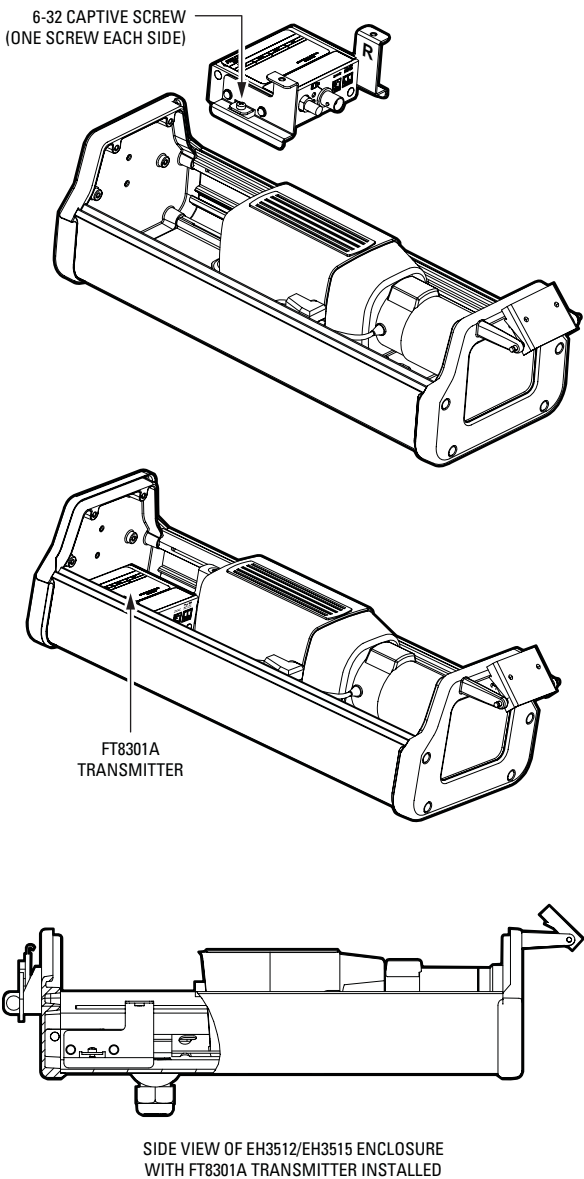

Figure 11. Mounting FT8301A Transmitter into EH3512/EH3515 Enclosure
10. Mount the transmitter into the enclosure by doing the following (refer to Figure 11):